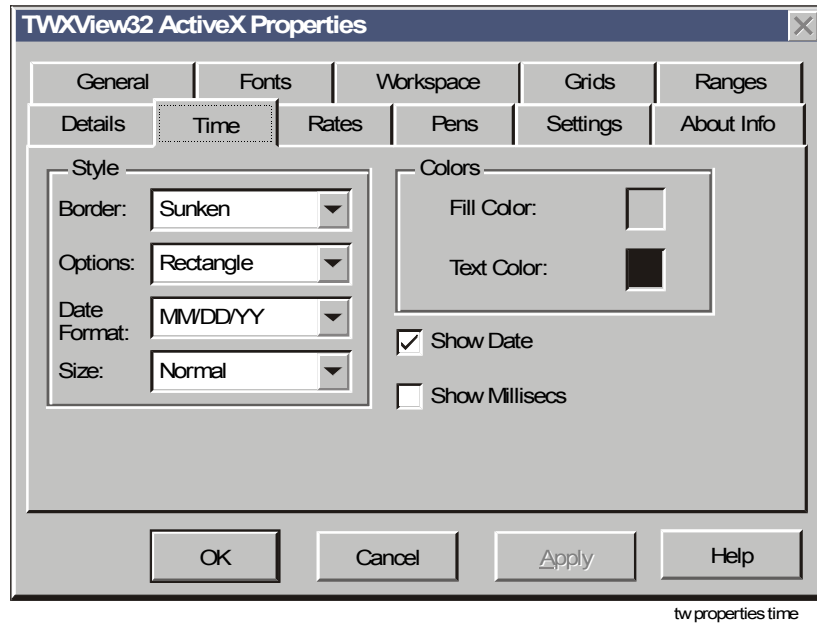

Figure 14-12: TWXView32 ActiveX Properties Dialog Box: Time Tab
2. Select the Time tab (Figure 14-12).